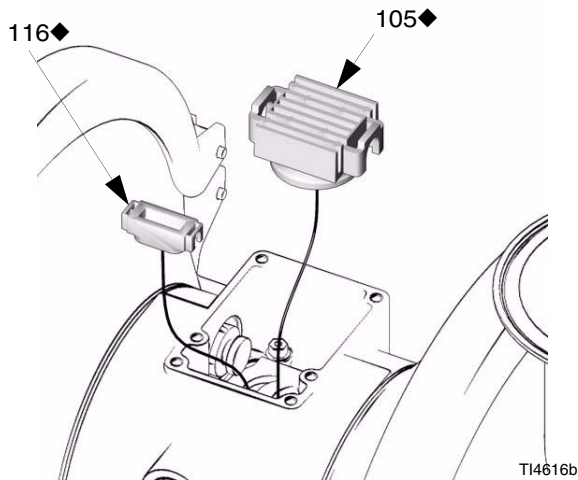

FIG. 11
6. Grease the lower face of the pilot block (116) and install so its tabs snap into the grooves on the ends of the pilot pins (114). See FIG. 11.
7. Grease the lower face of the valve carriage (105). See FIG. 11.
8. Install the valve carriage (105) so its tabs slip into the grooves on the narrow end of the actuator pistons (111). See FIG. 11.